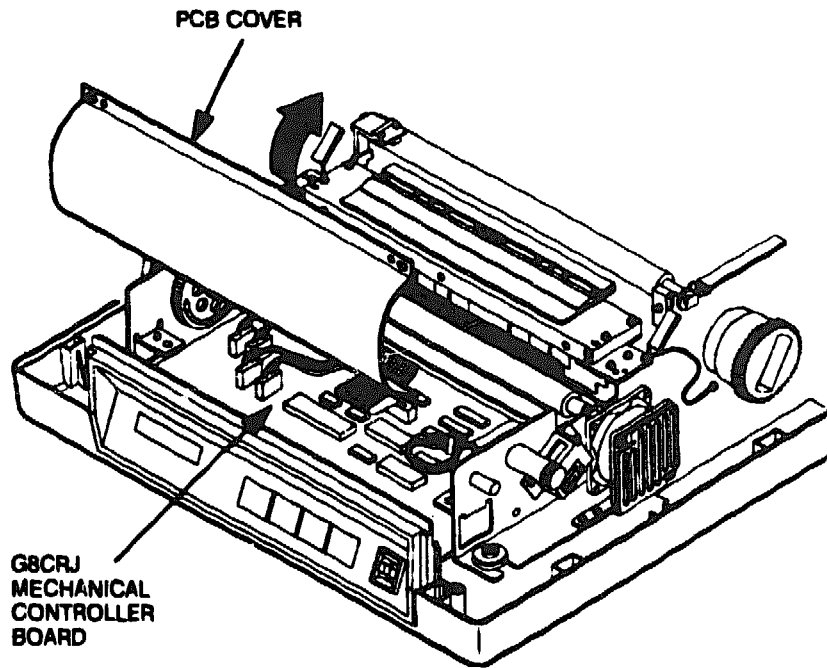

Figure 6-5 PCB Cover Removal
4. Grasp each side of PCB cover and slide it toward you and out of the printer (see Figure 6-5).